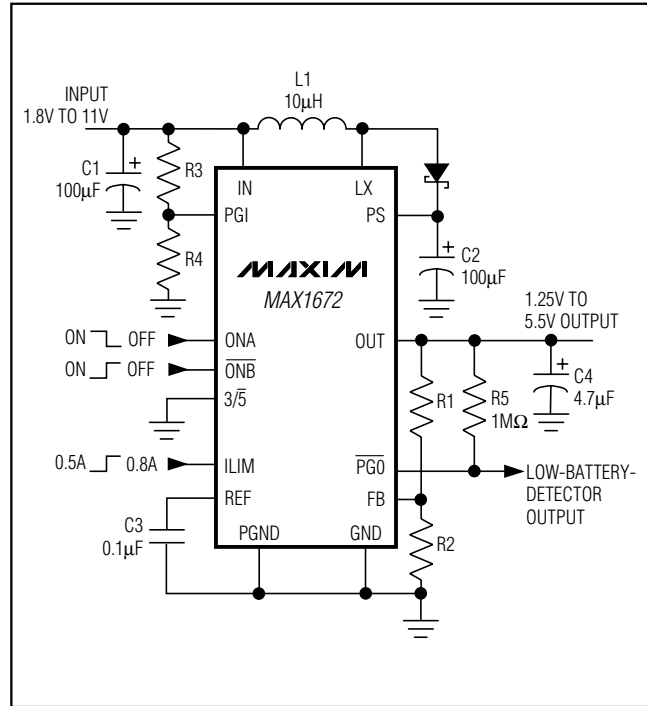

Figure 2. Adjustable Output Voltage Configuration
For fixed output voltages of 3.3V or 5V, connect $\overline{3/5}$ to PS or GND and connect FB to GND (Table 2). Alternatively, adjust the output voltage from 1.25V to 5.5V by connecting two resistors, R1 and R2 (Figure 2), which form a voltage divider between OUT and FB. Choose resistor values as follows:
The MAX1672 contains a comparator for low-battery detection. If the voltage at PGI falls below V_{REF} (typically 1.25V), the open-drain comparator output (\overline{PGO}) goes high. Hysteresis is typically 30mV. Set the low-battery detector's threshold with resistors R3 and R4 (Figure 2) using the following equation:
- Keep the IC's GND pin and the ground leads of C1 and C2 (Figure 2) less than 0.2in. (5mm) apart.